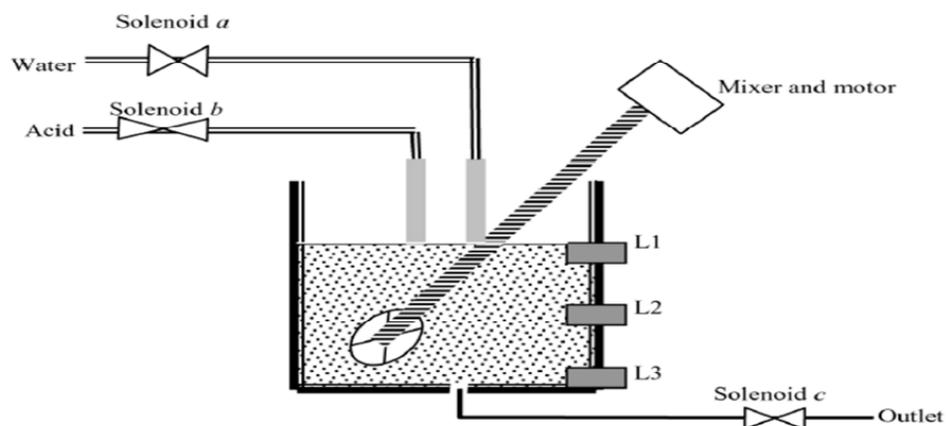

Figure 1
21. Develop ladder logic for simple blending of water and acid in a container where we only have three level sensors(L1,L2, and L3) and two liquids flowing in through two solenoid valves, solenoid a(water control) and solenoid b(acid control)and draining out through solenoid c(blend outflow).Water After required level of blend is need to be filled until sensor L2 senses. Then stop the solenoid a and start acid to fill upto level sensor L1 detects. The mixer runs for 3 minutes by the motor. The process initiates with the drain valve open, water and acid valves closed, mixer motor is off, and the tank is empty. Refer Figure 1.